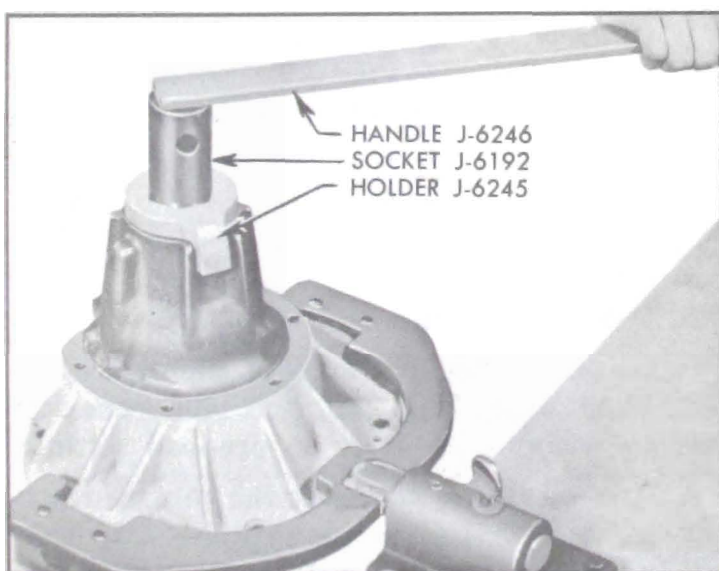

Figure 6-19—Removing Pinion Nut
3. Cut out and drive up staked section of pinion bearing lock nut with cape chisel, being careful not to damage threads on pinion. Hold pinion nut to carrier with Holder J-6245 and turn pinion clockwise through nut using socket J-6192 and Handle J-6246. See figure 6-19.